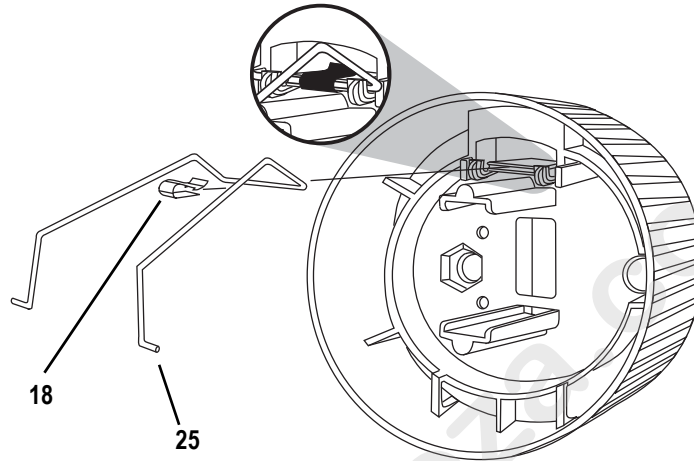

Figure 4
Step 10: Set the crossbar of the retainer clip (25) under the two hooks on the clip bracket as shown in Figure 4.
Step 11: Place the Tinnerman clip (18) over the retainer clip crossbar between the two hooks and press it down firmly until it snaps into place.